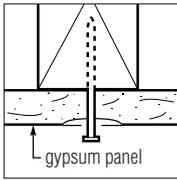

Fig. 17
**Remedy:** Repairs usually are necessary only for pops which protrude 0.13 mm (0.005") or more from face of board (Fig. 17). Smaller protrusions may require repair if they occur in a smooth gloss surface or flat-painted surface under extreme lighting conditions. Those that appear before or during decoration should be repaired immediately. Pops that occur after one month's heating or more are usually caused wholly or partly by wood shrinkage and should not be repaired until near end of heating season. An often effective procedure for resetting a popped nail is to place a 100 mm (4") broad knife over the nail and hit with hammer to seat flush with surface. A more permanent method is to drive proper nail or Type W screw about 38 mm (1-1/2") from popped nail while applying sufficient pressure adjacent to nailhead to bring panel in firm contact with framing. Strike popped nail lightly to seat it below surface of board. Remove loose compound, apply finish coats of compound and paint.